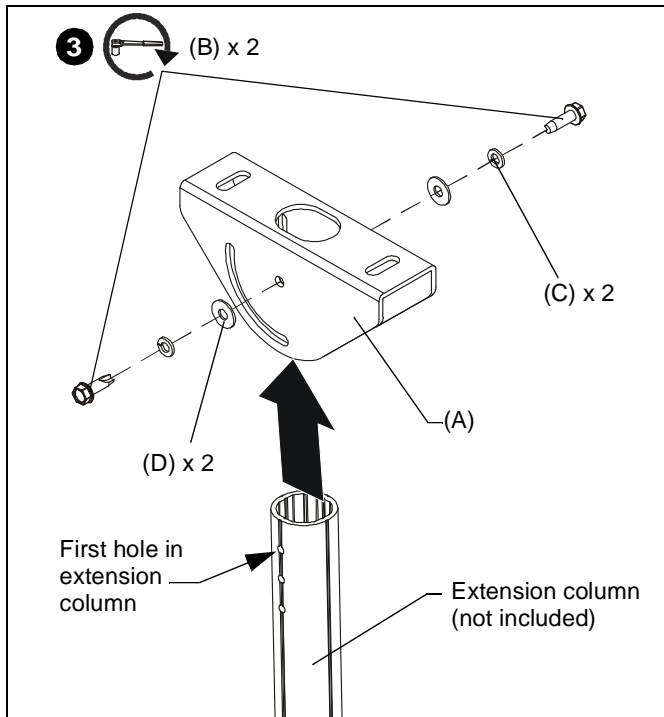

Figure 3
3. Loosely install extension column (not included) to CPA395 using two 5/16-18 x 1" hex head self-tapping screws (B), two 5/16" split lock washers (C) and two 5/16" flat washers (D) through fastener hole in CPA395 into first hole on each side of extension column. (See Figure 3)